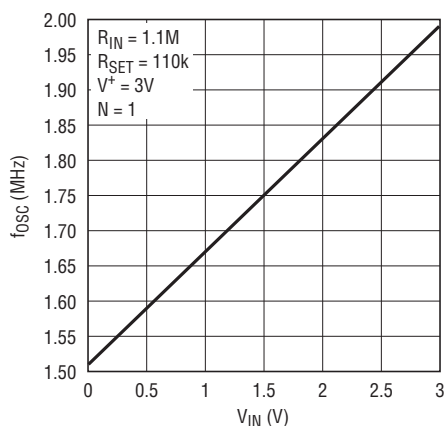

Figure 10. Output Frequency vs Input Voltage
Let $V^+ = 3V$, $f_{OSC(MAX)} = 2\text{MHz}$ for $V_{IN(MAX)} = 3V$ and $f_{OSC(MIN)} = 1.5\text{MHz}$ for $V_{IN} = 0V$. Solve for R_{IN}/R_{SET} by Equation (2), yielding $R_{IN}/R_{SET} = 9.9/1$. $R_{SET} = 110.1k$ by Equation (4). $R_{IN} = 9.9R_{SET} = 1.089M$. For standard resistor values, use $R_{SET} = 110k$ (1%) and $R_{IN} = 1.1M$ (1%). Figure 10 shows the measured f_{OSC} vs V_{IN} . The 1.5MHz to 2MHz frequency excursion is quite limited, so the curve of f_{OSC} vs V_{IN} is linear.